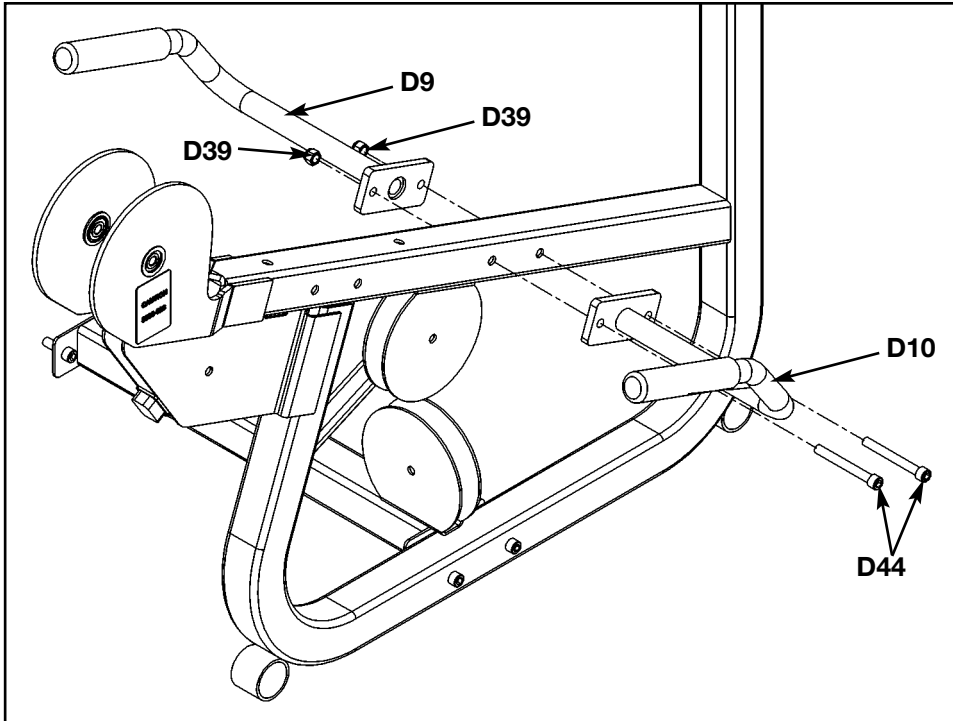

Figure 8
**5. Install left and right handles** (see steps 5A, 5B and Figure 8).
- B.** Install left and right handles (#D9 and #D10) using two SHCS .375-16 x 3.25 (#D44) and two nylon locknuts (#D39) as shown in Figure 8.